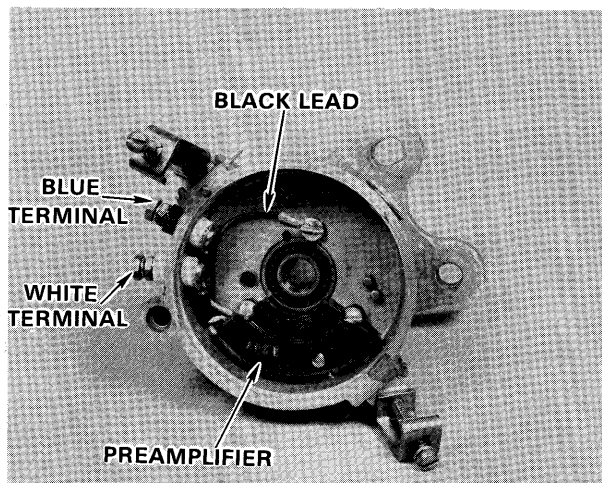

Figure 5 - Removing Preamplifier Leads
- Remove preampifier leads from terminals on distributor housing. See figure 5.
- B. Connect preamplifier leads to terminals on distributor housing as shown in figure 5.